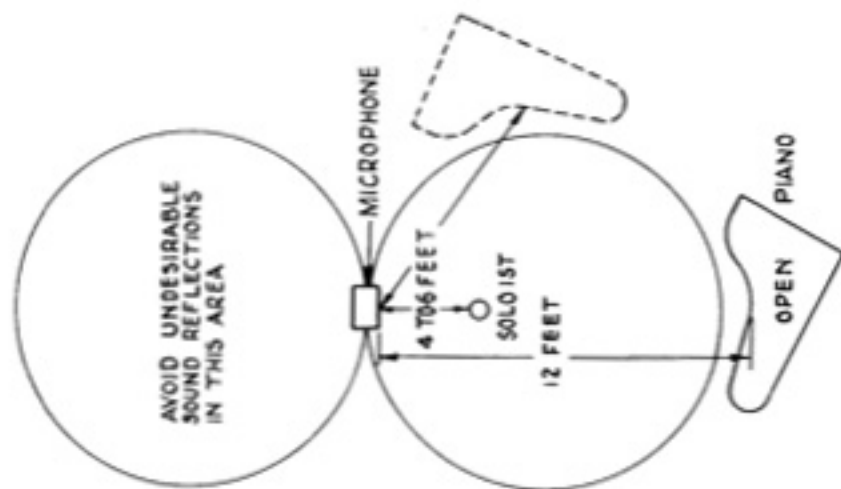

FIGURE 7—MICROPHONE SETUP FOR SOLOIST WITH PIANO
5. DIRECTIONAL CHARACTERISTICS - One of the most important characteristics of the velocity microphone is its directional property. Since the ribbon is suspended in free space, sound waves approaching the microphone from a direction in the same plane as the ribbon have no effect upon it. Sound waves FROM EITHER DIRECTION along an axis perpendicular to the plane of the ribbon have the maximum effect. For equal distances from the transmitter, the relative response to sound originating at various angles to the axis perpendicular to the ribbon is shown in Figure 7.